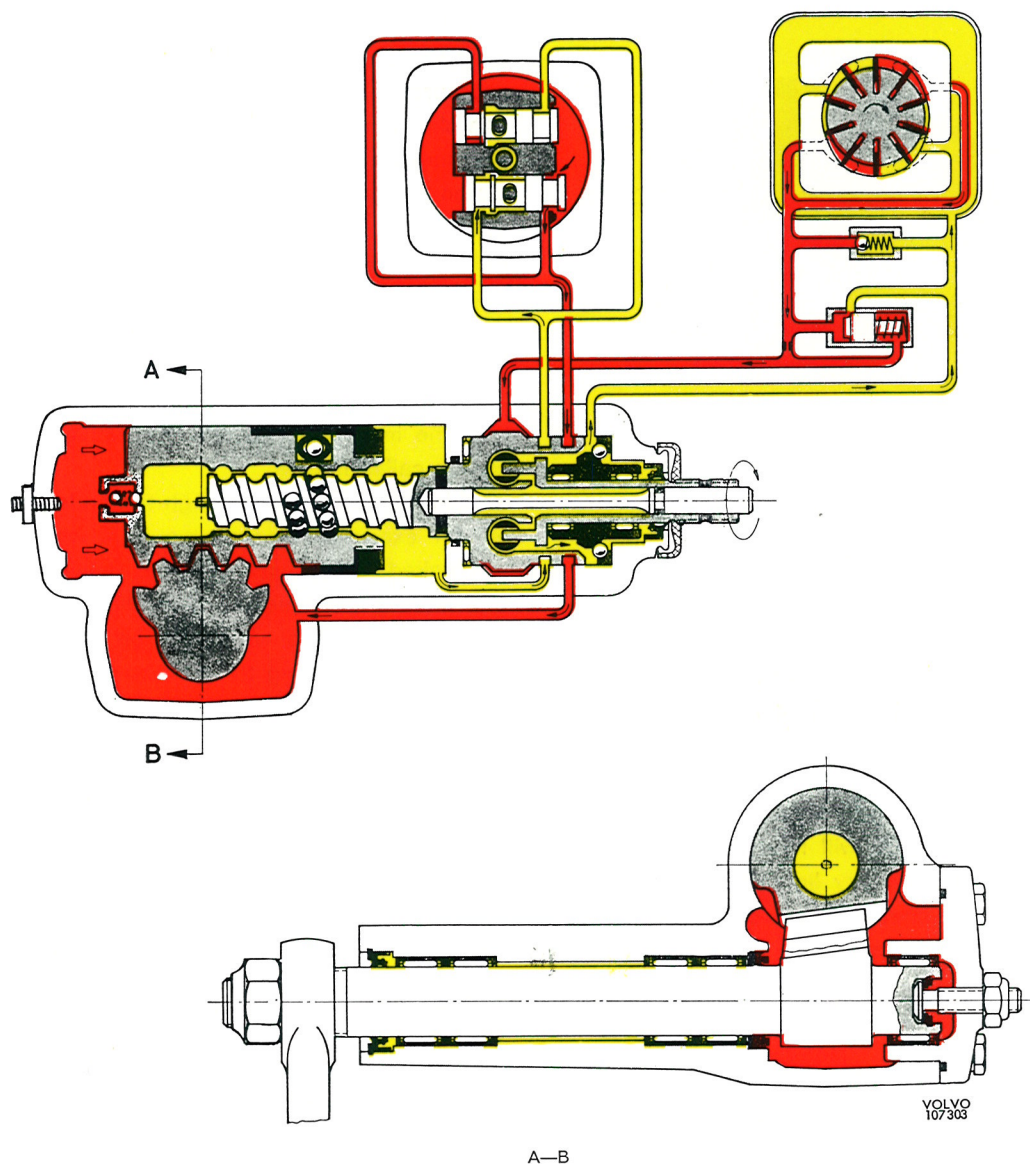

Fig. 6-46. Function, right-hand turn
The pitman arm shaft (20) is journaled in the steering housing and side cover by needle bearings, see Fig. 6-46. Sealing between the valve housing and the upper section of the housing as well as between the intermediate piece and steering cam is catered for by O-rings and plastic rings. The steering gear reduction ratio is 15.7:1.
Turning the steering wheel to the right (see Fig. 6-46) will screw the piston (2) to the right on the figure. The control valve (10) is displaced to the right and permits oil under pressure to pass to the annular groove (18) of the valve housing and from there on to the left-hand side of the cylinder. Oil under pressure also flows to the return groove (7) which, however, is closed so that oil pressure on the left-hand side of the operating piston (2) rises and facilitates the turning of the lever shaft. Oil at the right-hand section of the cylinder is pressed by the piston via the annular groove (19) through the return groove (6) of the control valve (10) back to the oil reservoir (13).
The space in the intermediate piece is oval, see Fig. 6-46. This permits the area between the rotor, the wall of the intermediate piece and two of the vanes to alter when the rotor rotates. When a couple of vanes are moved from the suction side to the pres-